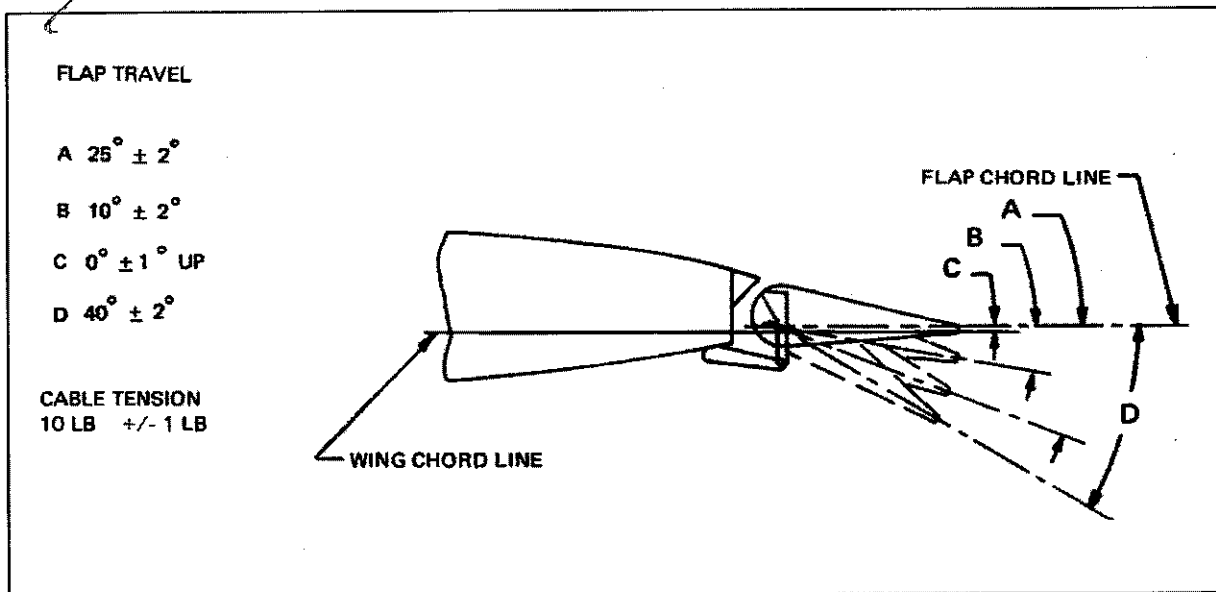

Figure 27-30. Flap Rigging
- (4) Tighten jam nut.
- (5) Rotate left stop adjustment screw until it contacts stop fitting.
- (6) Tighten jam nut.
- (7) Set flap control cable tension (handle next to floor, 0 degrees) per Figure 27-30 at turnbuckle attached to low end of flap handle in floor tunnel. (Remove flap handle cover and enough tunnel carpet to remove tunnel cover aft of handle.)
- (8) Adjust and safety turnbuckle.
- e. Check flap for full down travel to the degrees required in Figure 27-30. Adjust torque tube stop screw in or out as necessary. After adjusting screw, review steps c (3) through d (5).